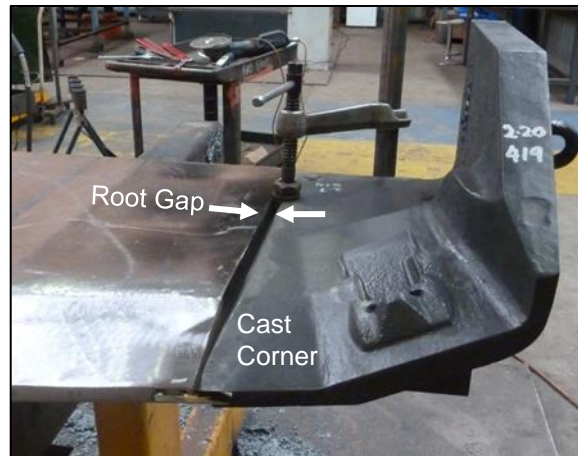

Figure 9 Cast Corner placement
2.4.2. Using a Mechanical lifting device, position the left and right Cast Corners on the positioning plates. Ensure to allow 5mm root gap and appropriate flatness as specified in the layout drawing. Refer Figure 9.